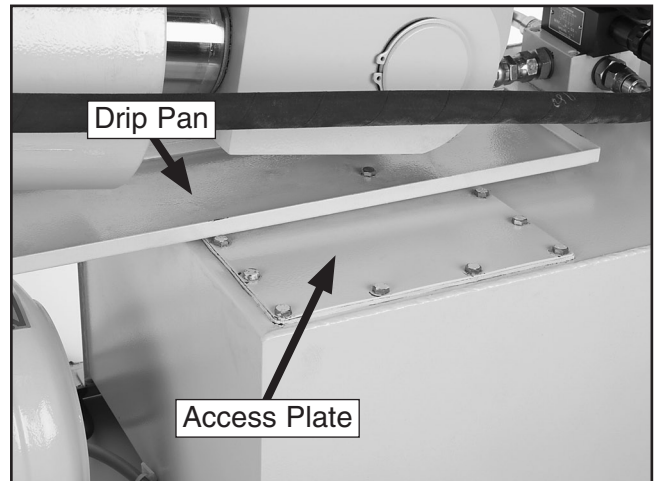

Figure 56. Top of hydraulic reservoir.
4. Remove the drip pan and reservoir access plate from the top of the reservoir (see **Figure 56**).